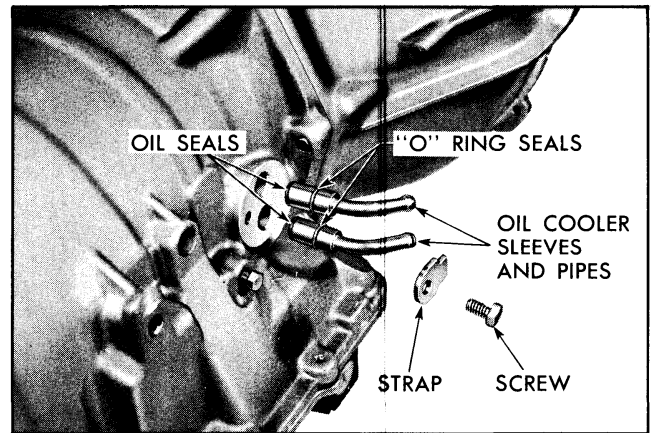

Fig. 7D-177 Oil Cooler Sleeves and Seals
1. Assemble sleeve seals and "O" rings on oil cooler sleeves (Fig. 7D-177).